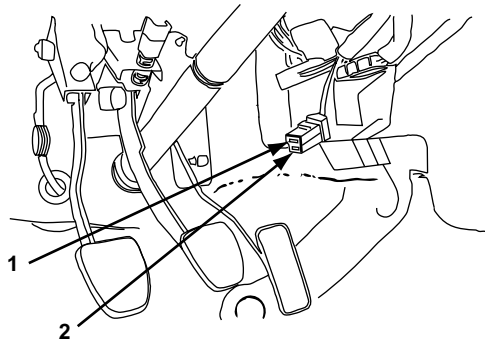

Figure 15-52 1993–96 Impreza ABS Check connector location
1. Locate the ABS diagnostic connector under the dash near the steering column (Figure 15-52).